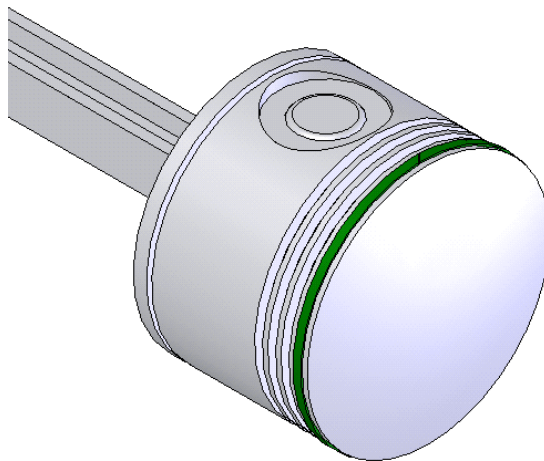

Figure 11-45 *First instance of the Piston Ring assembled with the Piston*
4. Insert the Piston Ring in the assembly document and assemble the Piston Ring at the uppermost groove of the Piston using the assembly mates, see Figure 11-45. In this figure, the color of Piston Ring is changed by selecting it and choosing the **Component Properties** option from the shortcut menu. From the **Component Properties** dialog box, choose the **Color** button to change the color.